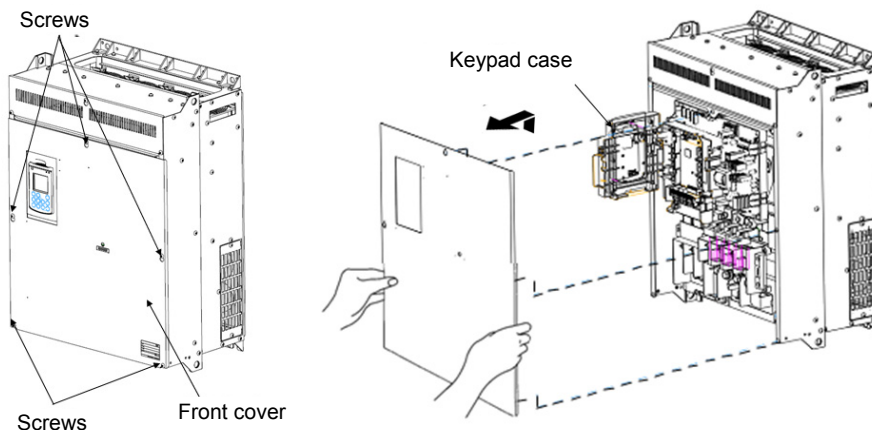

Figure 2.3 Removing the Front Cover and the Wiring Plate (FRN110AR1S-4□/ FRN150AR1S-4U)
- ① Loosen the screws on the front cover, hold the right and left ends of the front cover, and slide it up to remove it.
- ② After making the necessary wiring connections, align the top of the front cover with the holes on the unit and reattach the cover by reversing the process illustrated in Figure 2.3.